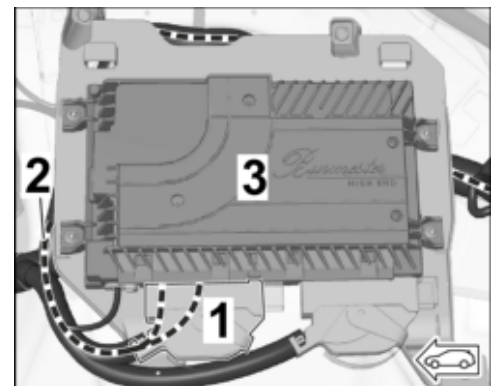

Figure 15
2.4.3 **ONLY** for Burmester sound system (9VJ): ⇒ *Figure 15*
Disconnect plug connection B (38-pin) to the Burmester amplifier. ⇒ *Figure 15 -1-*